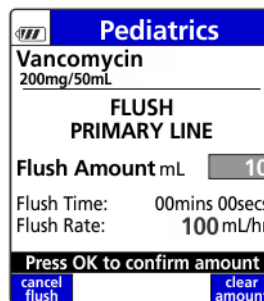

Figure 105. Enter Primary Line Flush Volume.
3. Enter the desired flush amount to be delivered and press **OK**. See Figure 105.